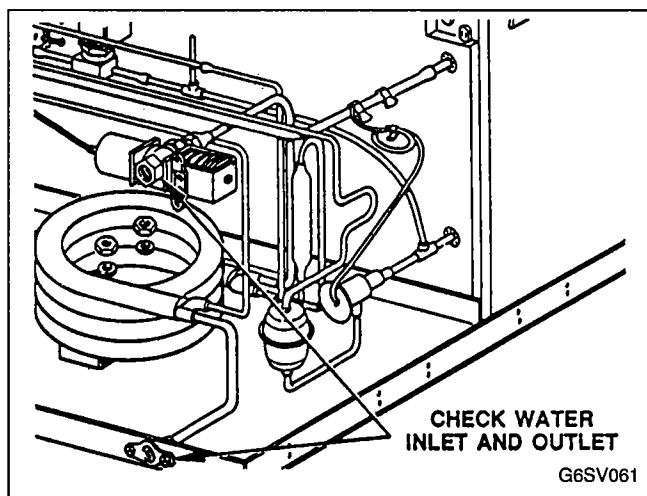

FIGURE 63. CONDENSER LEAK CHECK POINTS
7. Check condenser water inlet and outlet with electronic leak detector. If a leak is detected, replace condenser. See Figure 63.